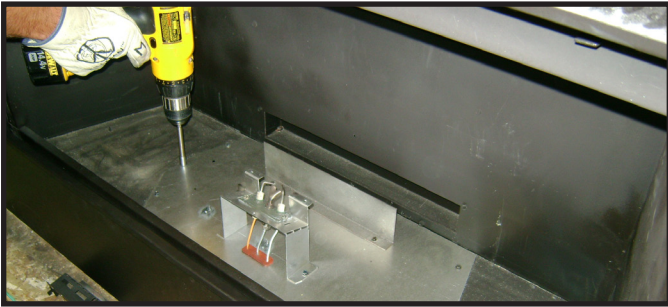

Figure 16.5 Remove Valve Plate Screws
1. Remove eleven screws around perimeter of valve assembly that secure valve plate to the firebox bottom. See Figure 16.5.